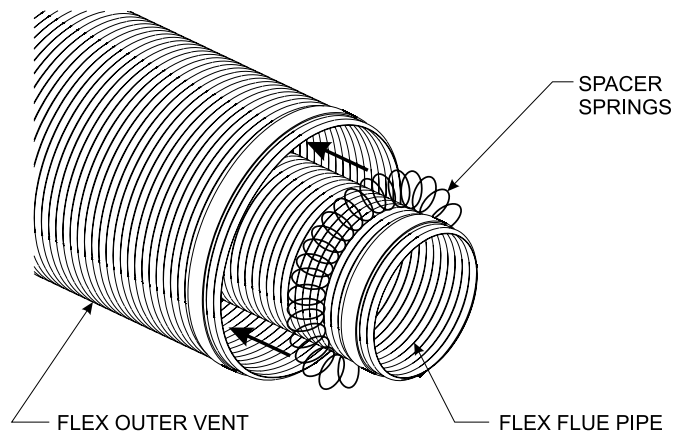

Figure 52
2. Check to see that the vent spacer springs are located around the flue vent at 8 inch intervals along its length. **See Figures 52 & 53.** If not, stretch the spacer springs to about 15 inches long and wrap them around the flue, then interlock the ends of each spring. Maintain equal distance between spring spacers.